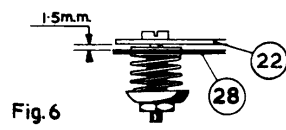

Fig. 6
- (a) The spring mounting of the motor should be adjusted so that the distance between the motor mounting plate 28 and the unit mounting plate 22 is 1.5 mm. (see Fig. 6). After adjustment the locking nut should be tightened and sealed with locking paint.